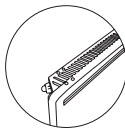

Figure 7
- Turn the convector upside down (Fig. 7);